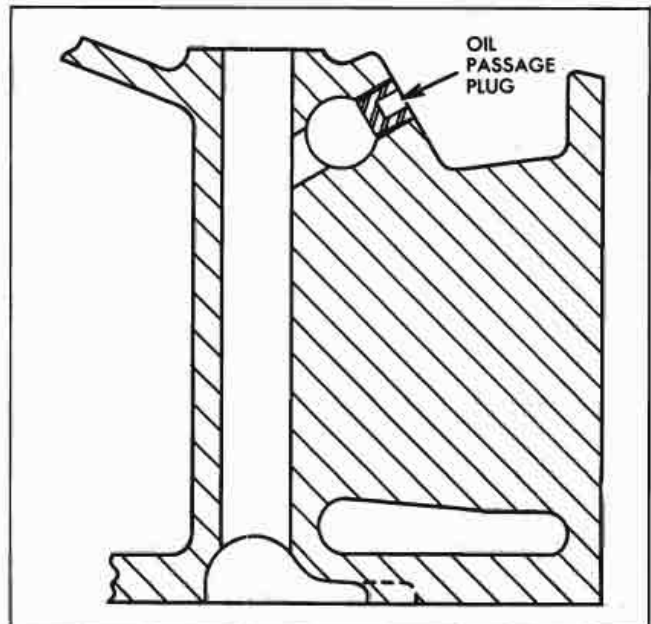

Fig. 6-20 Cylinder Head Small Oil Passage Plug
2. Insert easy-out in hole of plug turning counterclockwise and pulling out on easy-out at same time (Fig. 6-20).